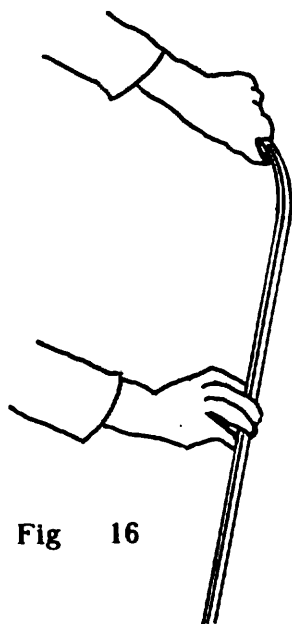
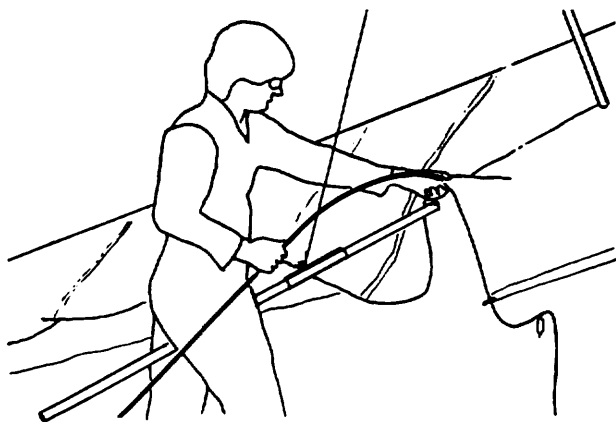

Fig 16
Fig 17
10) Remove the battens from the bag, lay them on the ground, and check them for symmetry, side to side. (Fig 16) Correct any that are assymetric.(See the tuning and maintenance sections of this manual for more information on batten shaping.) Separate the right side battens (those with black tips) from the left side battens (white). Next, separate the top surface half battens (rear tips are horizontal) These are inserted first, and go just outboard of the longest top surface batten. They are inserted from the underside of the sail, between the seam that joins the top and bottom surface. The order for the rest of the top surface battens is longest to shortest, from the root out. Lift the keel when inserting the longest (#10) batten so that the batten slides in more easily without the rear end scraping the ground (Fig 17).